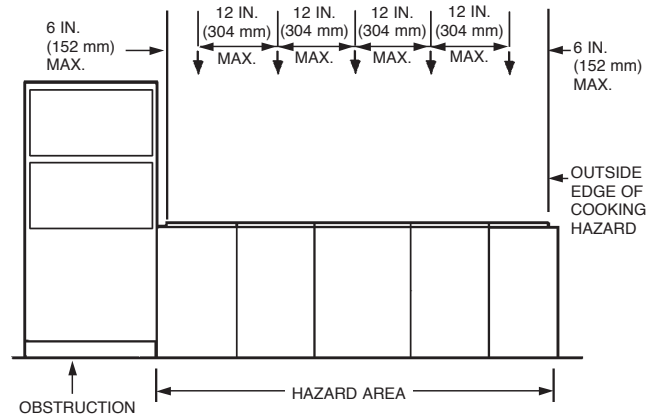

FIGURE 4-136
2. When obstructions are located adjacent to appliances protected by overlapping nozzles, the overlapping appliance nozzle spacing must start with the appliances adjacent to the obstruction. See Figure 4-136.